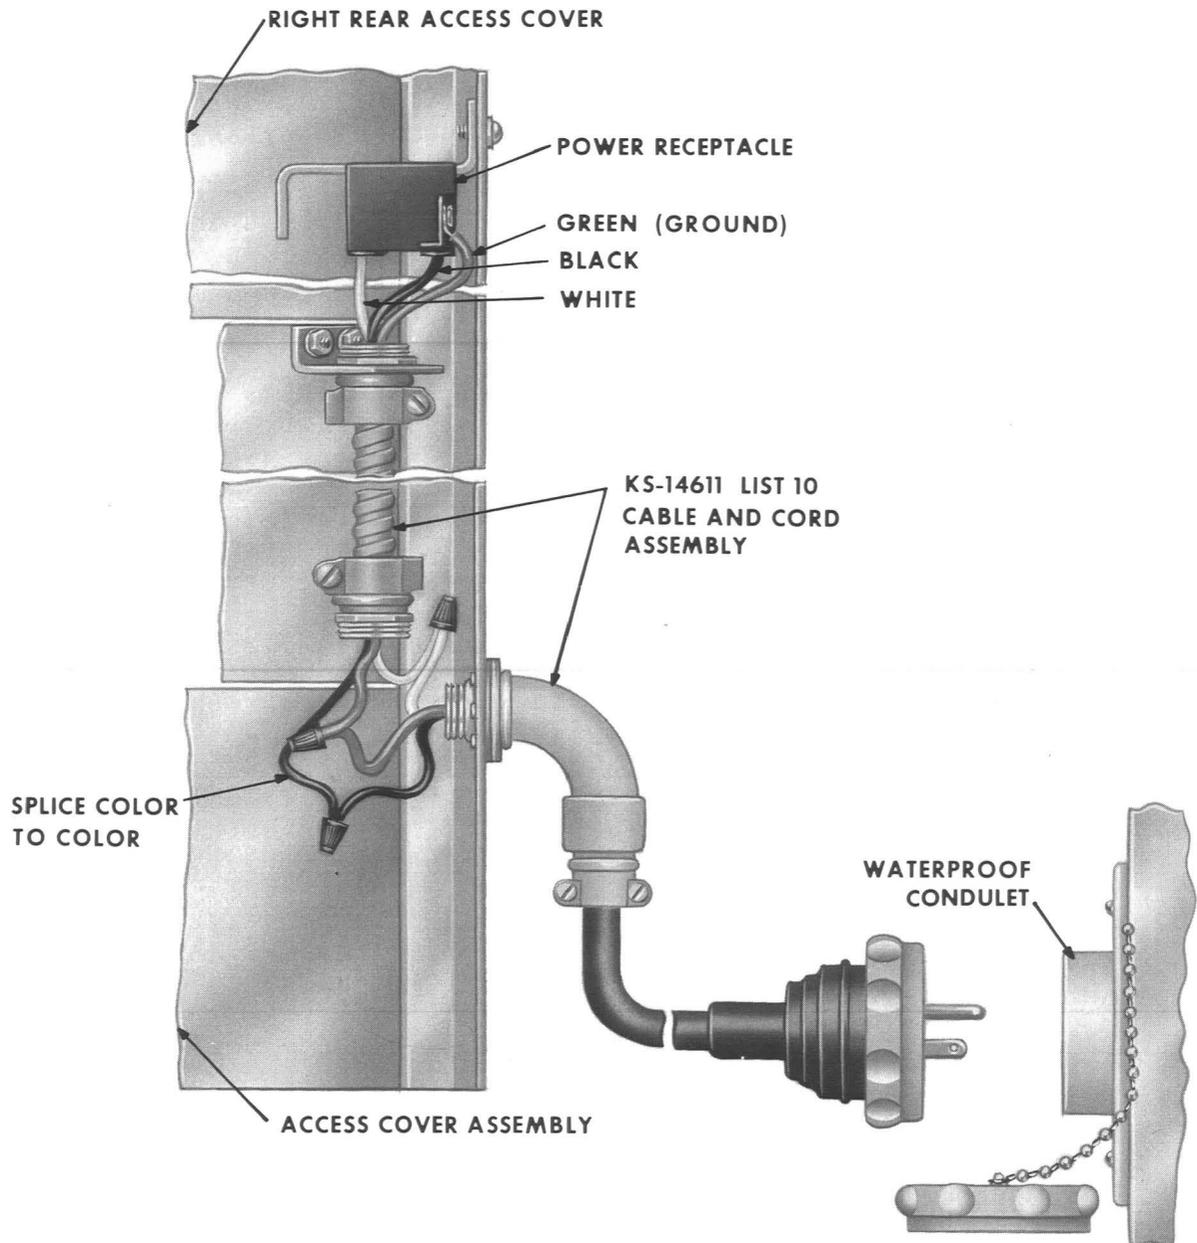

Fig. 10 — KS-14611, List 10 Power Cable and Cord Assembly
5.04 A KS-14611, List 10 cable and cord group is used when power entrance is made at the bottom of booth (Fig. 10).